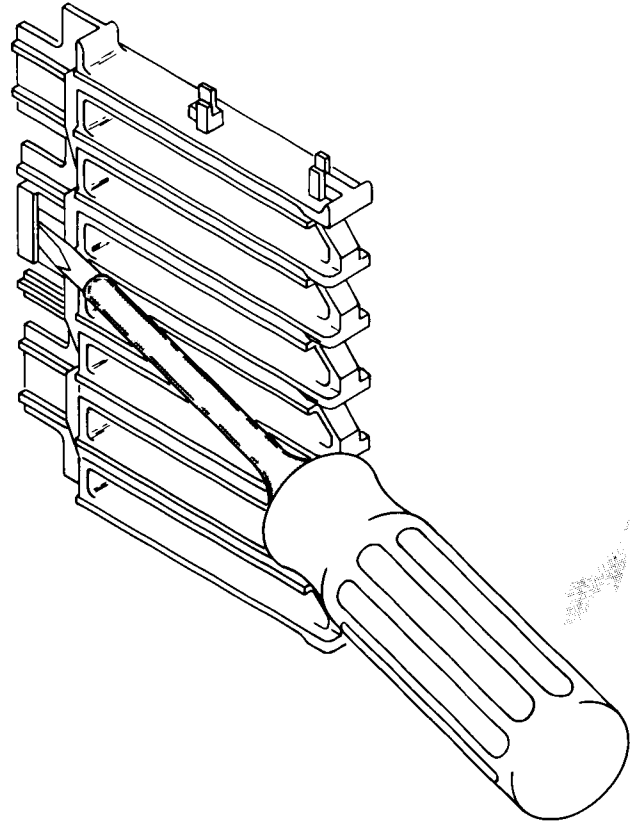

Figure 11. Card Guide Removal
7. When an unplugged chassis is received with a change, the cards and card guides from the old chassis are used on the new chassis. Refer to the new plug chart(s) received with the change for correct plugging. Figure 11 illustrates the proper method for removal of the card guide.